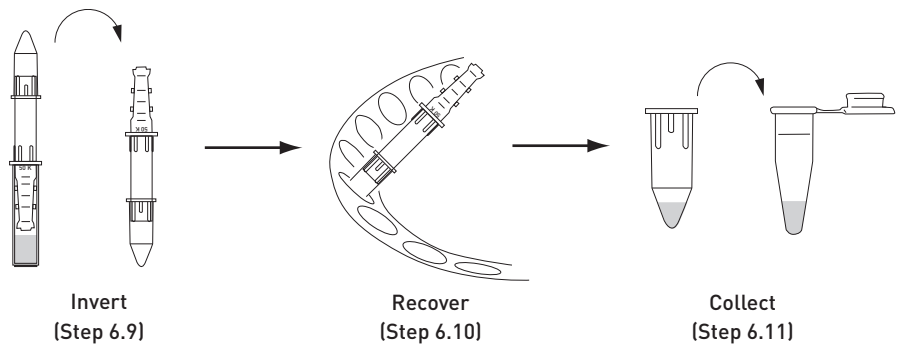

Figure 7 Optional purification and concentration of the labeled antibody conjugate
- 6.9 Invert the antibody concentrator into the conical collection tube as shown in Figure 7.